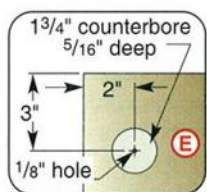

Fig. 1
1 MAKE A FULL-SIZED PATTERN FOR THE SIDES (A) from 1/4" hardboard or plywood, referring to **Figures 1 and 2**. Use the stock's straight edge to establish the rear edge of the side, and then measure and mark the other straight portions of the perimeter.